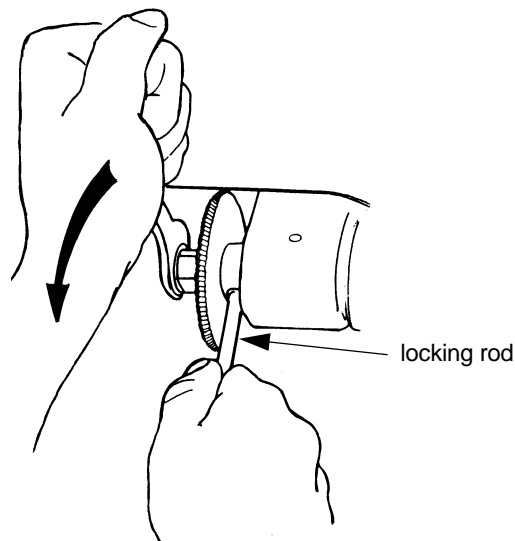

Fig. 13
- 1) slot the locking rod (standard) into the hole of the cutting tool shaft (fig.13).